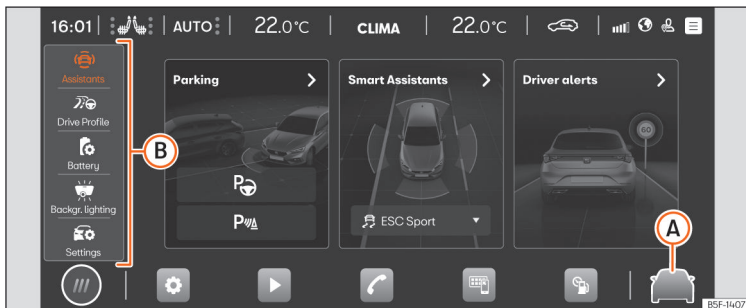

Fig. 19 Schematic diagram: Assistants and vehicle settings
Press **Fig. 19 (A)**, or **Vehicle settings** in the main menu to open the assistants and vehicle settings menu. Next, clicking on any of the menus located in the left area **(B)**, displays the settings menu or the selected assist systems on the display.